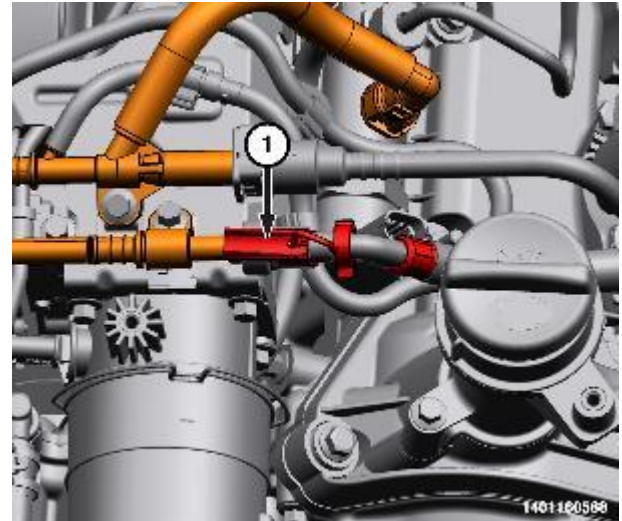

Figure 156 – Safety Clip
20. Remove the fuel line supply safety clip (1) (Figure 156).